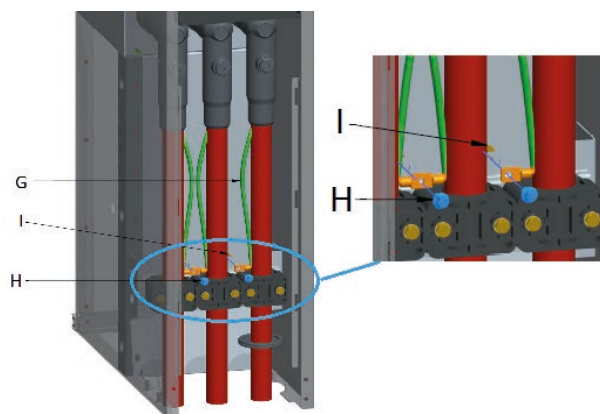
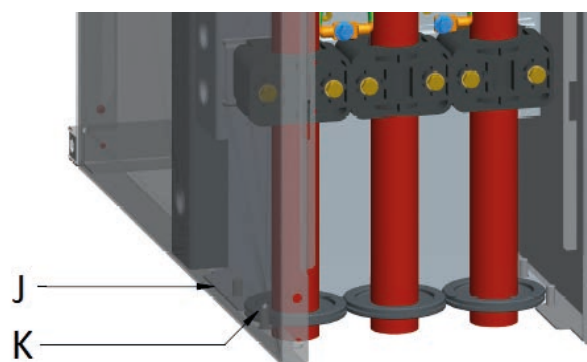
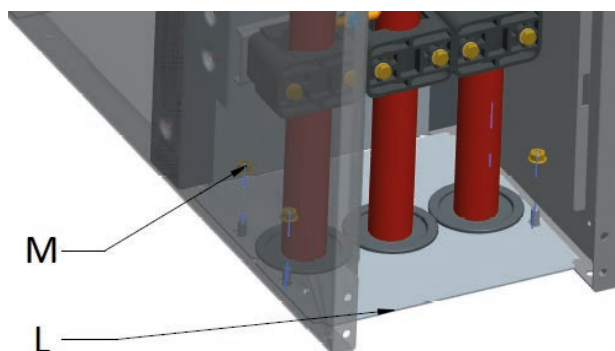

Figure 25: Mounting of the earthing cables
Figure 26: Position the back bottom plate
Figure 27: Reset the bottom plates
- Connect the 3 cable screens (Figure 25 G) at the earthing rod of the cable compartment with the hexagonal head bolts and nuts (Figure 26 H). Do not forget the washers (Figure 26 I)
- Place the back bottom plate (Figure 26 J) directly in the cable compartment and position the rubber cable glands (Figure 27 K) on such a way that the bottom plates are fixed.
- Fix the front bottom plate (Figure 27 L) on such a way that the rubber cable glands are fixed by the back bottom plates with 4 screws with hexagonal head (Figure 27 P)